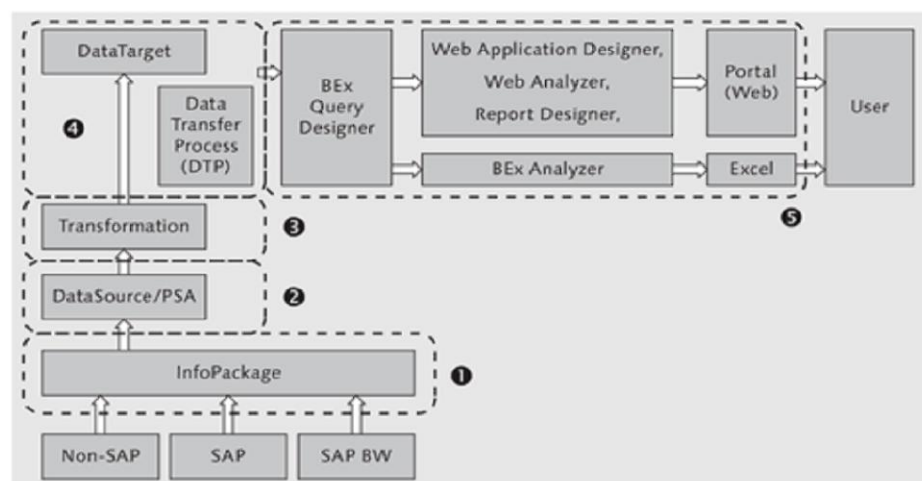

Figure 2.3 Layers Within SAP NetWeaver BW
SAP NetWeaver BW has different layers that are responsible for reliable data acquisition and information processing, along with robust analytical capabilities (Figure 2.3).
The extraction layer (❶ of Figure 2.3) is related to the *extraction process*, which is the collection of data from source systems. It aims to guarantee the integrity of data while eliminating reporting burdens on the source systems. As previously mentioned, SAP NetWeaver BW is capable of acquiring data from a wide spectrum of sources, such as the following:
Extracted data is received and temporarily stored in the *staging layer* of SAP NetWeaver BW (② of Figure 2.3). The data staging layer primarily serves the following purposes:
The transformation layer of SAP NetWeaver BW (③ of Figure 2.3) facilitates the consolidation, cleaning, and integration of data to synchronize it technically and semantically. It converts data from the source data format into the desired destination data format. Data transformation can involve data mapping, the application of a custom transformation program, and formulas. We cover transformation in detail in Chapter 7.
The process of adding transformed data to data targets is called the *loading process* (❶ of Figure 2.3). A data transform process (DTP) transforms the data based on the parameters defined between the DataSource and the data target. For more details on DTPs and loading, see Chapter 7.
The *reporting and analysis layer* (❷ of Figure 2.3) is where data is presented in different forms, such as reports and dashboards (Figure 2.4). This layer allows you to perform analysis on the data stored in SAP NetWeaver BW. Various components that represent the reporting and analysis layer in SAP NetWeaver BW are grouped together as SAP Business Explorer (BEx) components. The reporting and analysis layer is discussed in more detail in Chapters 9, BEx Query Designer, and 10, Reporting and Analysis.